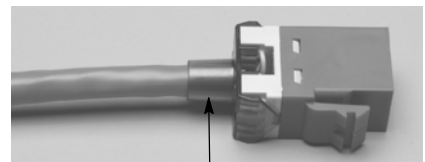

Figure 13
2. Place the strain relief on the cable with the circular boss facing away from the end of the cable to be terminated. Refer to Figure 13.
20. For *unshielded* jack connectors, position the strain relief over the connector and snap into place. Refer to Figure 13.